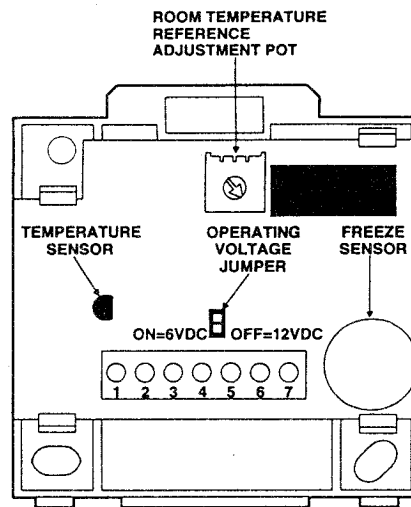

Figure 3. ESM Key Component Locations
This section describes the key ESM components you should be familiar with when installing the unit. Figure 3 shows the component locations and Table 1 describes each component function.
- 2) Remove the ESM cover and locate the room temperature adjustment pot (see Figure 3).
- 3) Remove the ESM cover and locate the room temperature adjustment pot (see Figure 3).